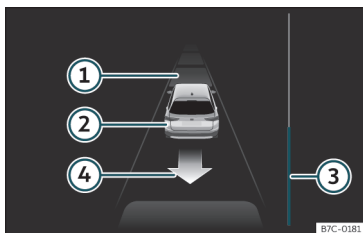

Fig. 231 On the instrument panel display: driving off from perpendicular parking.
Key to the **Fig. 231**:
The progress bar »» Fig. 231 ③ indicates the distance to cover »» page 278.